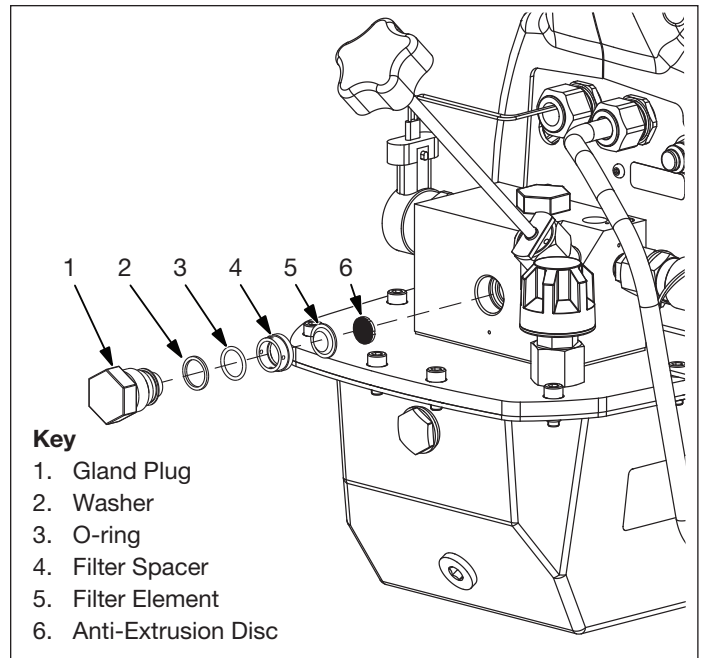

Figure 10, Filter Element
5. Using a 1" wrench or socket, loosen and remove the gland plug from the valve manifold. Refer to Figure 10.